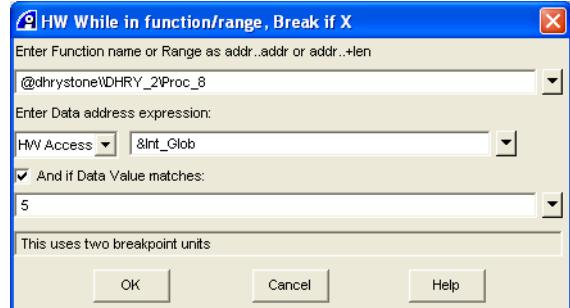

Figure 11-36 HW While in func/range, Break if X dialog box
3. Select **Debug → Breakpoints → Hardware → HW While in function/range, Break if X...** from the Code window main menu. The HW While in function/range, Break if X dialog box is displayed. Figure 11-36 shows an example: